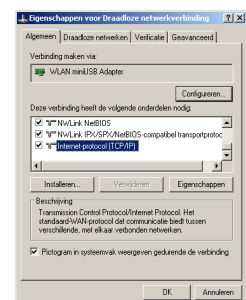

Figure 1: Installed protocols
- This screen (figure 1) shows the installed protocols.